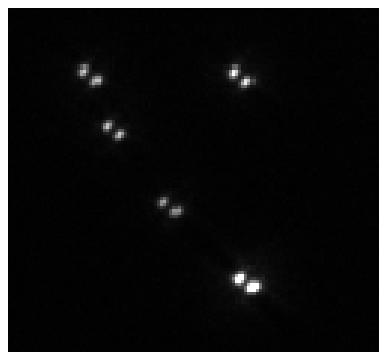

Fig. 313 Double lobed PSF created by a double phase-ramp in the pupil plane
- ☞ We recommend to start with the default values for the peak mask size (9 for 2D; 19 for 3D data) and then optimize on behalf of the results. Note that in 3D-SMLM using PRLIM (phase ramp localization imaging microscopy) with a double phase ramp, the PSF is split into two lobes (Fig. 313) that have a larger expansion than the classical PSF.